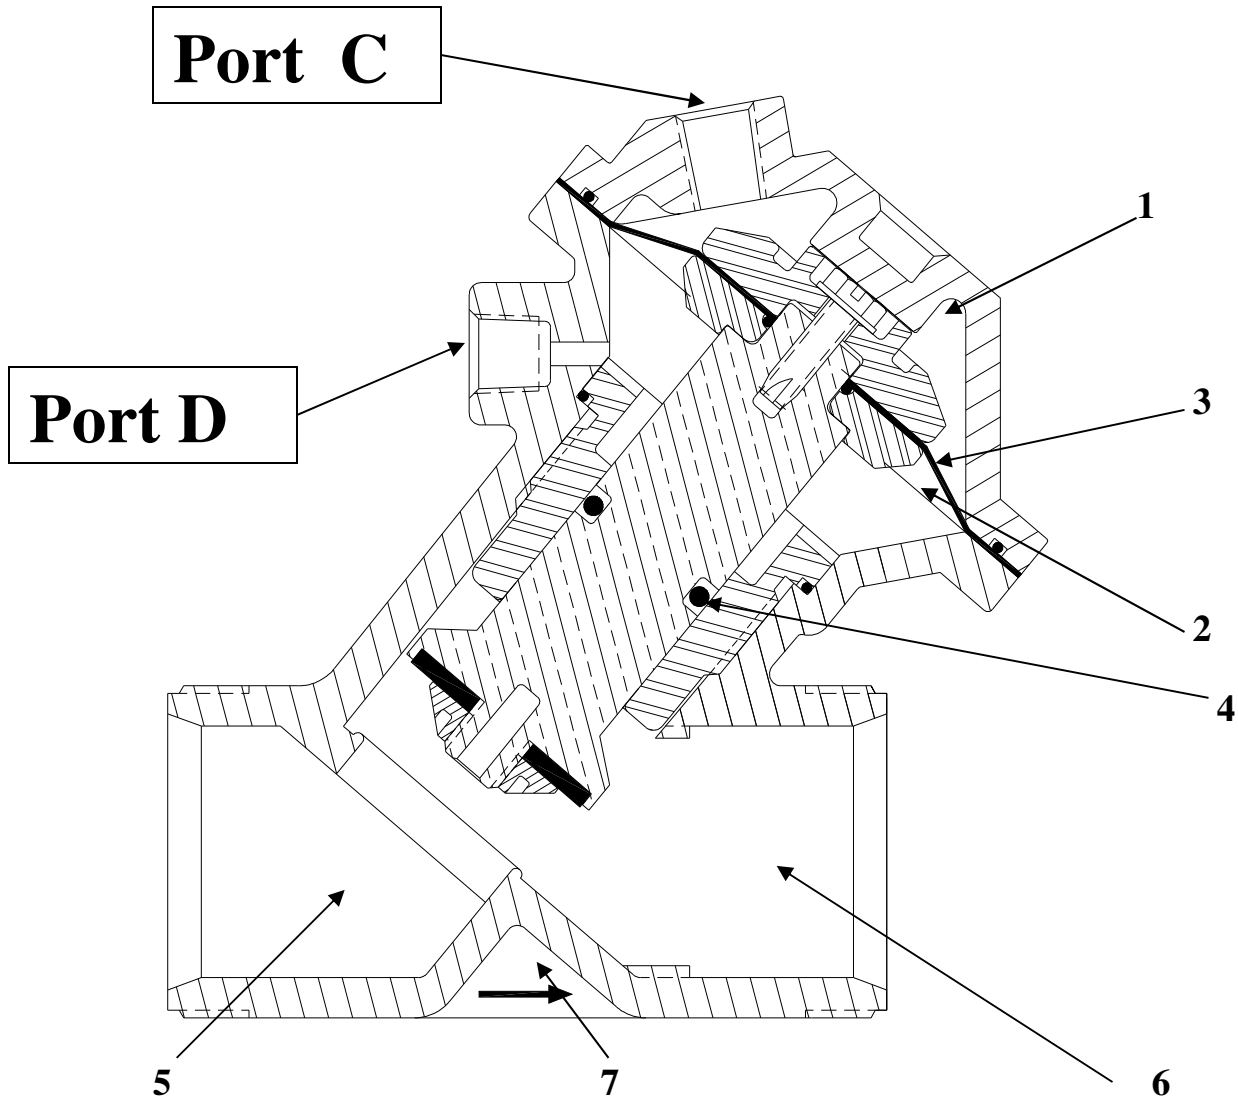

Fig. 1
- Control pressure (equal to greater than line pressure) should be connected to valve cap on normally open valves, (Port C, Fig. 1) and vent port (Port D, Fig. 1) should be left open. **DO NOT** plug vent port.
- Control pressure (equal to greater than line pressure) should be connected to the (Port D, Fig. 1) on normally closed open valves. **DO NOT** remove pipe plug installed on (Port C, Fig. 1).